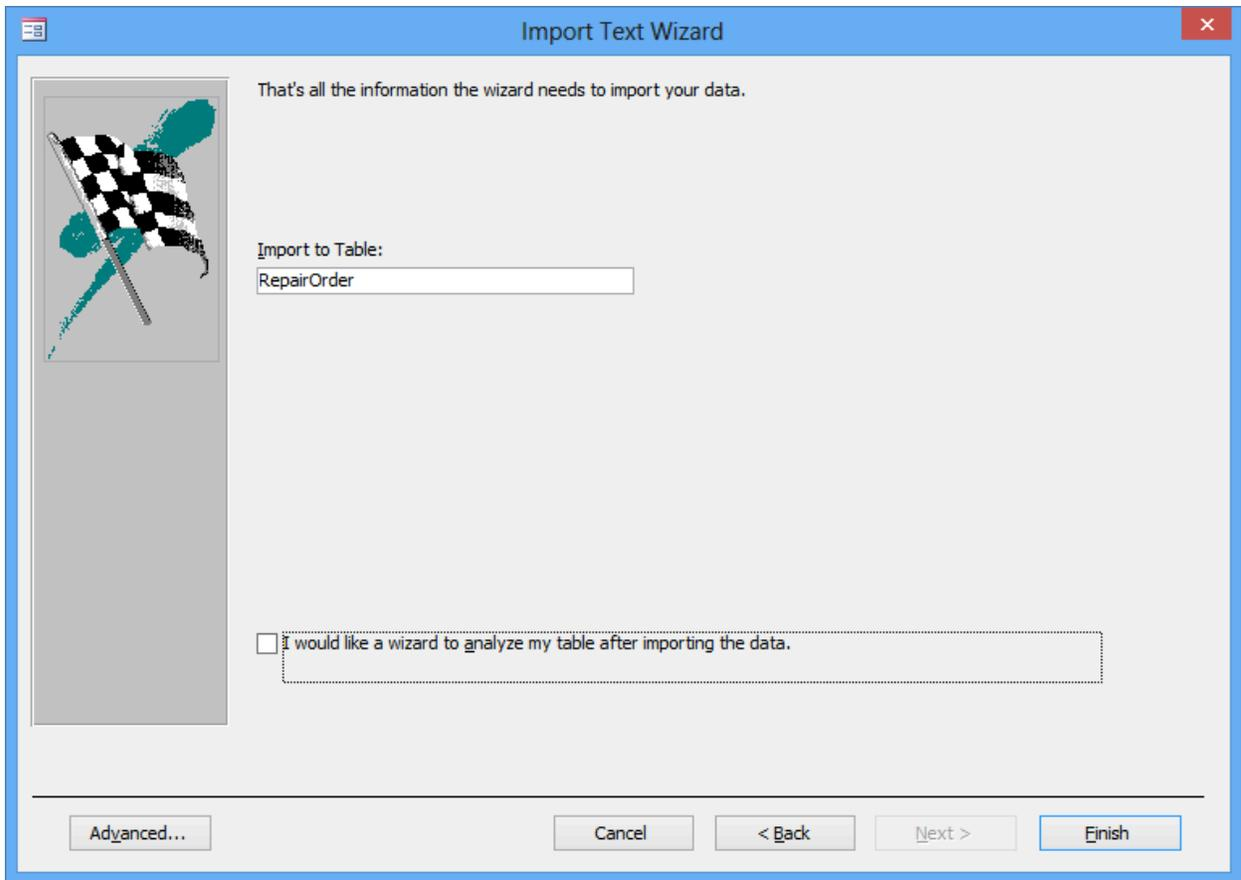

Figure 35: Final Window of the Get External Data Wizard for Text Files
- The last wizard window, Figure 35, asks you where to import the data. It should already say *RepairOrder*, so click **Finish**.